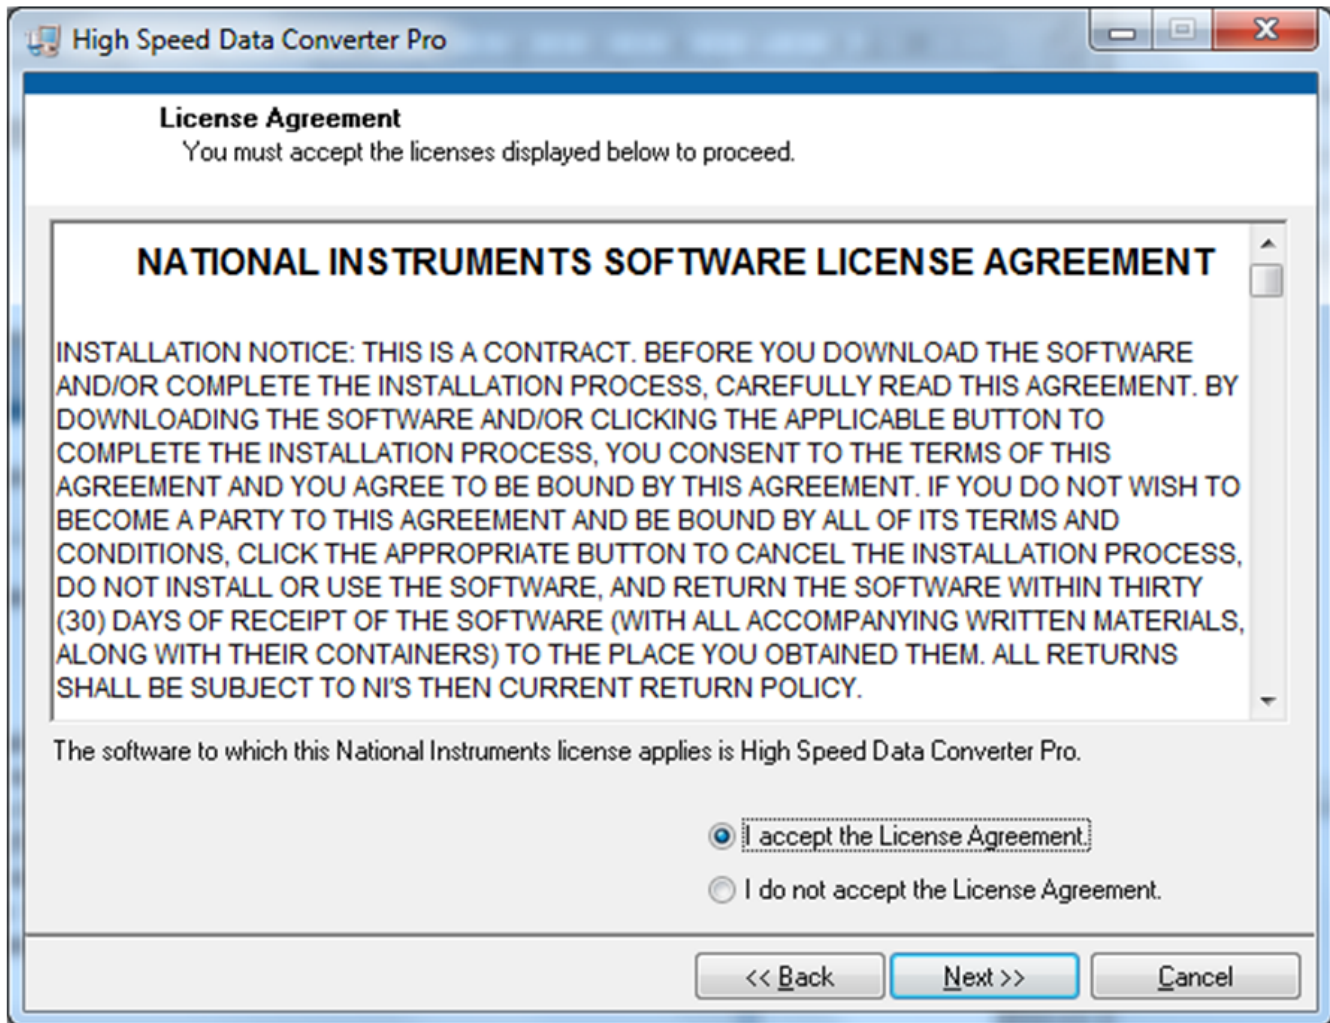

Figure 35. HSDCPro Install (NI License Agreement)
- Read the License Agreement from National Instruments and select *I accept the License Agreement* and press the *Next* button as shown in Figure 35.